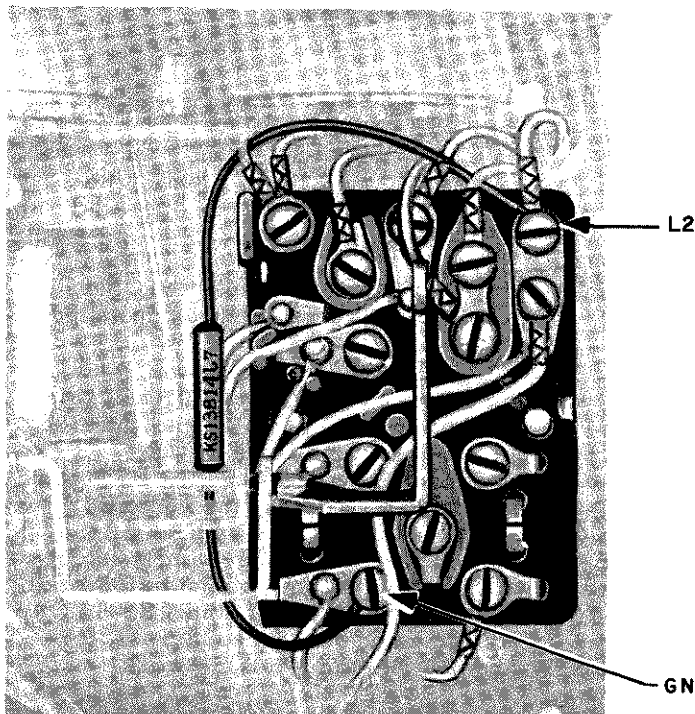

Fig. 4 - 500J, K or 501J, K Telephone Set,
3.05 In case of severe interference it may be necessary to install drainage capacitors. The 40BA capacitor shown in Fig. 4 is used to bypass rf energy to ground.
◀ Fig. 4 — 40BA Capacitor and Schematic
2.04 The KS-13814, List 7 capacitor is installed in the 500J, K and 501J, K telephone sets as shown in Fig. 4. It is connected across the L2 and GN terminals of the 425A network as shown. Place the capacitor against the side of the network nearest the ringer. Cover the exposed portions of the capacitor leads with tubular insulation.